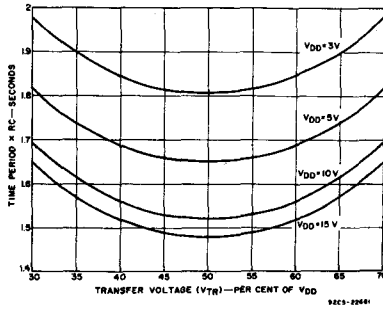

Fig. 3—Discrete RC-oscillator time period as a function of transfer voltage.
Equation (1) shows that the period of the multivibrator, T, is sensitive to changes in  $V_{DD}$ , as illustrated by the graph of time period, T, vs transfer voltage as a function of  $V_{DD}$  in Fig. 3. In addition to the strong dependence of actual time period on the  $V_{DD}$  chosen, the graph also illustrates that, for a given  $V_{DD}$ , a full transfer voltage spread of 30 to 70 per cent of  $V_{DD}$  (unit-to-unit worst-case variations) yields a change in time period of about 10 per cent from the nominal 50-per-cent transfer-voltage percentage values.